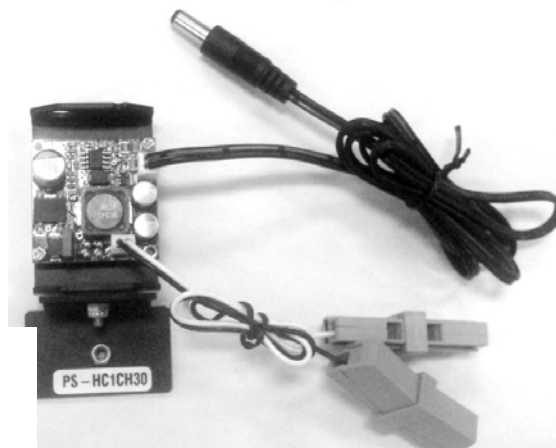

Figure 3 – Cable Harness Connections
7. Plug both wire harnesses into the adapter as shown in Figure 3.